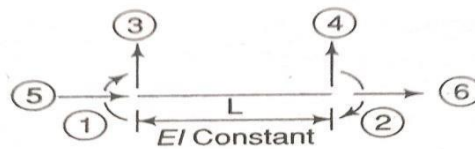

Figure 2.6
7. Develop the stiffness matrix for the end-loaded prismatic member AB with reference to the Coordinates shown in Figure 2.6